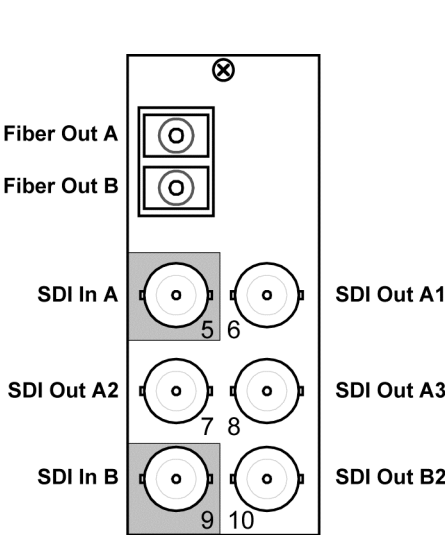

Figure 2.7 Cable Connections for the **RM20-9214-B** Rear Module
- **RM20-9214-B** Full Rear Module — Each 9214-2EO occupies two slots and provides two optical outputs, two SDI inputs, and four SDI outputs. **Figure 2.7**